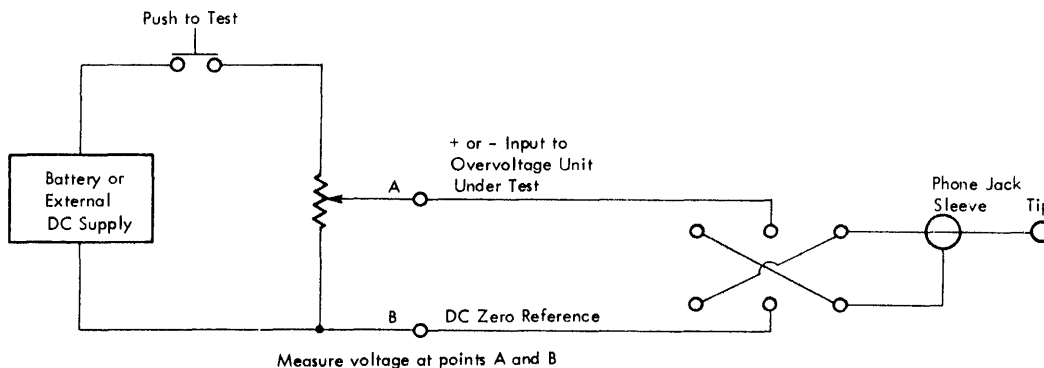

FIGURE 118. OVERVOLTAGE ADJUSTMENT
4. Connect an external dc supply (or batteries) and a 5000-ohm potentiometer as shown in Figure 118 to provide a variable input to the overvoltage unit under test.